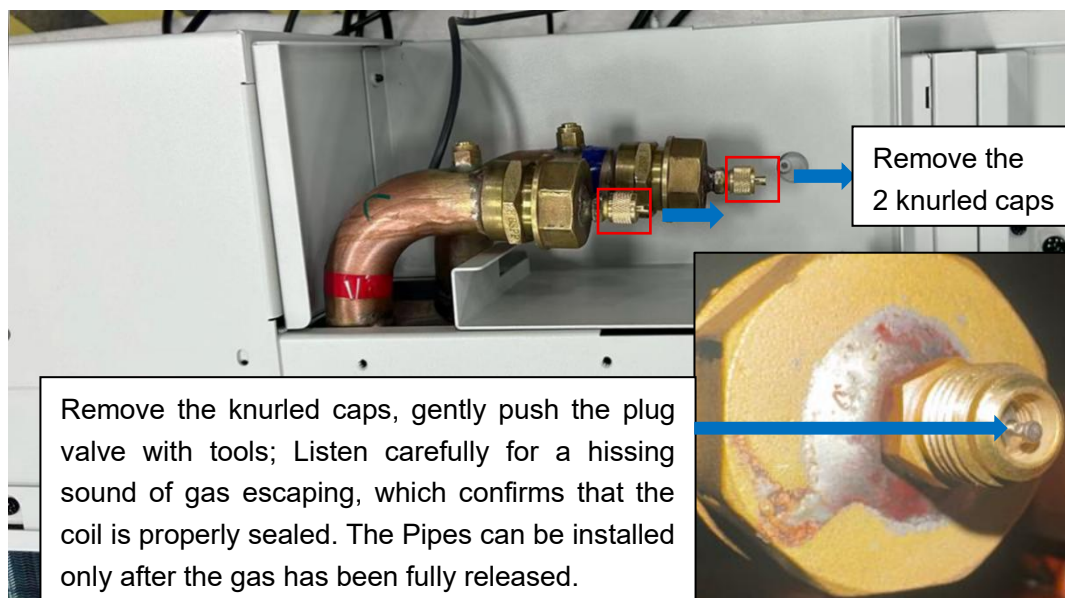

Figure 32. Verify the gas well sealed then release the gas
- Remove 2 knurled caps, verify the gas well sealed and release the gas properly, refer to figure 32.